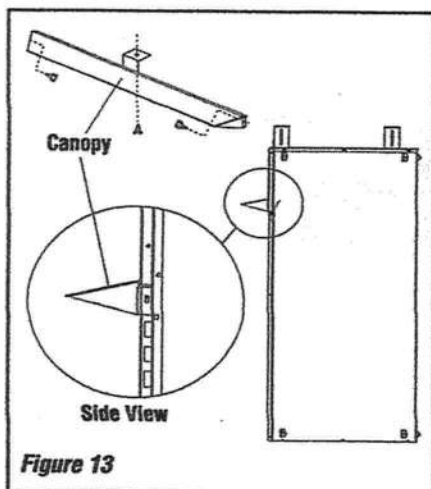

Figure 13
**NOTE:** A canopy comes standard and is required for model UVF-36. The factory-supplied canopy must be installed on the firebox for safe operation for model UVF-36 in all installations (this part is optional for other models). See Figure 13.
- Step 2.** Align the canopy with the holes in the side frames as shown in Figure 13. Install three screws as shown in Figure 13. Make sure canopy is level and secure.